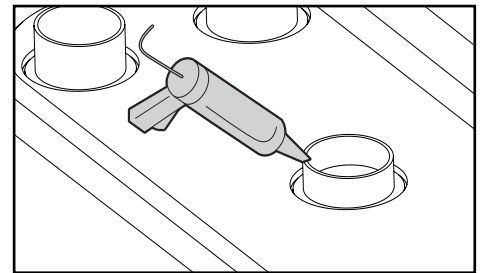

FIGURE 2. Apply construction adhesive to bathtub feet. (Above floor rough-in feet shown)
- Bathtub feet must be glued to subfloor with construction adhesive (Fig 2 and 3). Unless using a floor leveling compound.